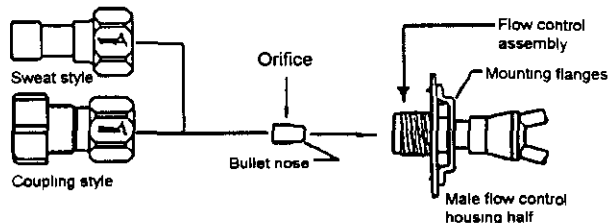

Figure 4 — Flow Control Assembly Field Orifice Replacement Instructions
Be sure there is no dirt introduced into the flow control —orifice assembly. Be sure to install the orifice with the bullet nose pointing in the proper direction as shown in Figure 4. Failure to do so will result in improper operation.
- Step 11.** Insert proper sized orifice fully into the flow control body with rounded "bullet" nose towards the unit as shown in Figure 4. Insure the orifice stays inserted in body before connecting mating half. See chart in the outdoor unit installation instructions for proper size.
Be sure there is no dirt introduced into the flow control — orifice assembly. Be sure to install the orifice with the bullet nose pointing in the proper direction as shown in Figure 4. Failure to do so will result in improper operation.